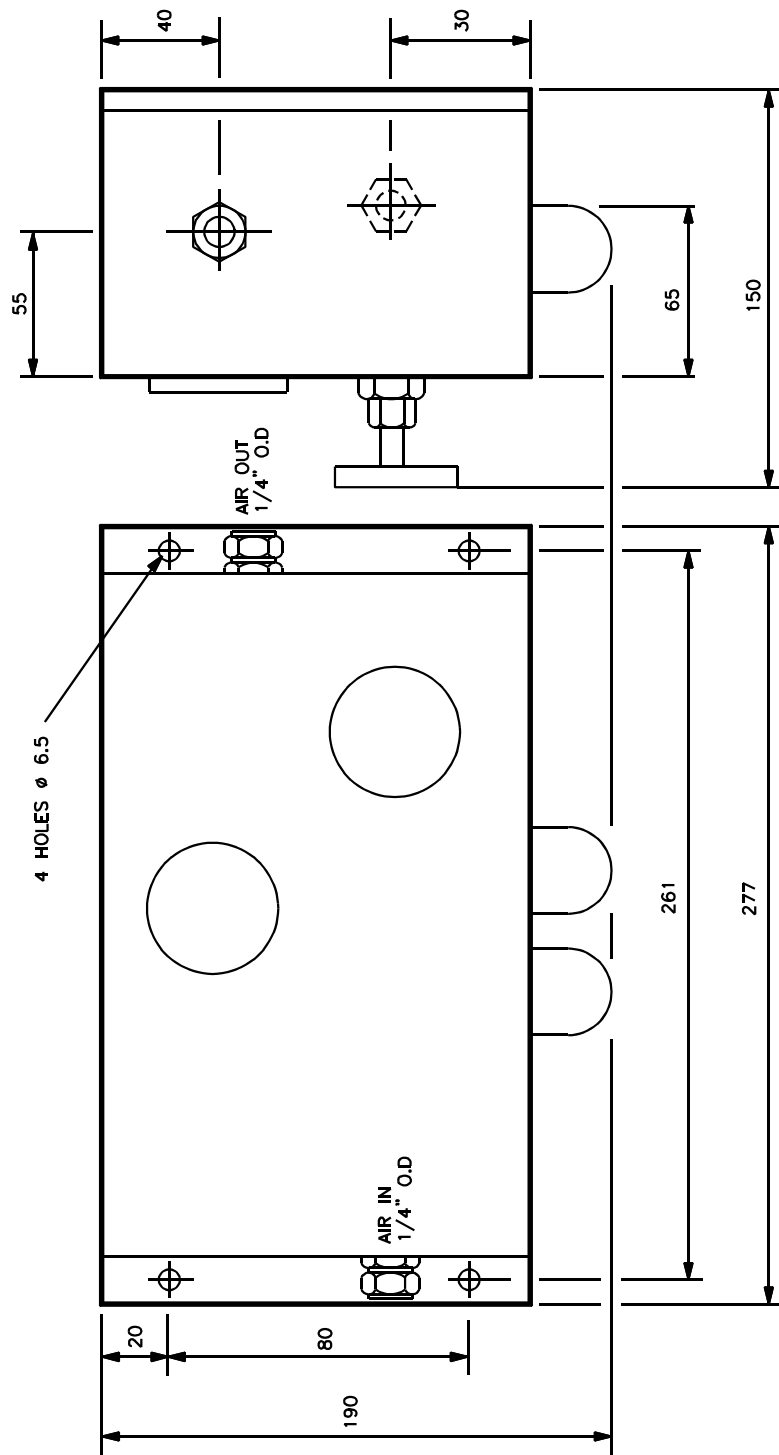

Figure 3.20 Air Supply Regulator (oxygen and combustibles)
3.8.2 Air Regulator Set (oxygen and combustibles analysers) Part No. 00714990 See Figure 3.20
This unit is similar to the unit above but has a precision pressure regulator to control the air flow to the close tolerances which are required when the combustibles option is fitted. See Figure 3.20.